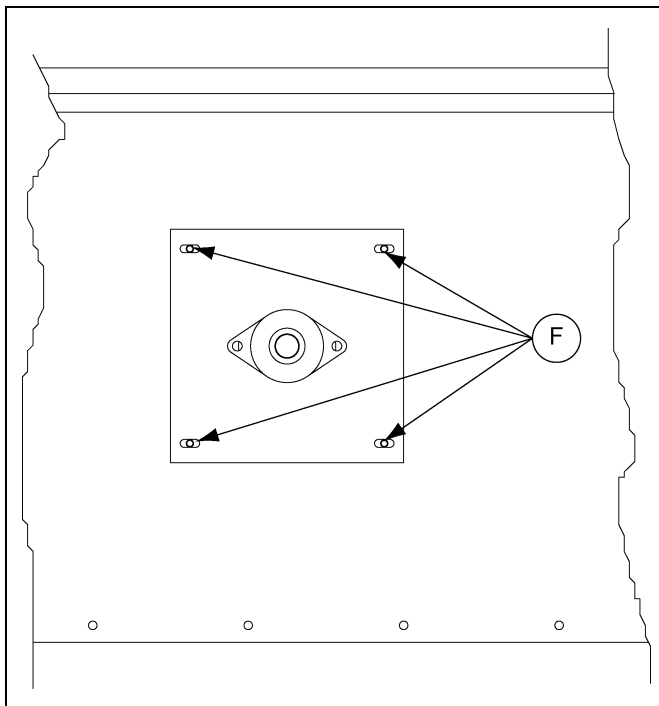

Figure 5F
2. Adjustment of the idlers is done by loosening eight (8) bolts. These bolts hold the bearings in place and are located on both sides of the conveyor sections (four (4) on each side). After loosening these bolts, the end of the idler can shift either forward or backward. (See Figure 5F.)